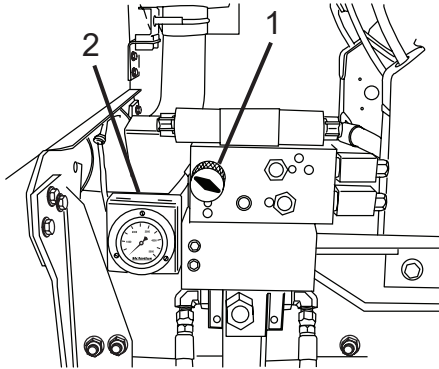

Figure 90
- Once the pressure requirements have been determined, use the PRV knob (Figure 90, Item 1) to adjust the valve to the required pressure.
Pressure will be displayed on the gauge (Figure 90, Item 2).